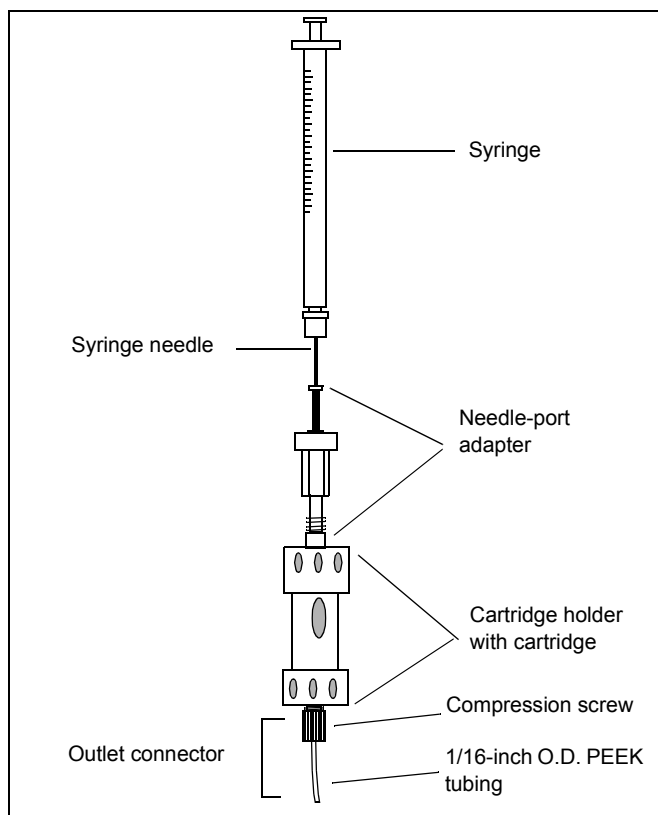

Figure 6 Cartridge Connection
2. Assemble the outlet connector: slide the PEEK tubing provided in the Methods Development Kit into a 10-32 compression screw, then finger-tighten the compression screw into the outlet end of the cartridge holder (Figure 6).
3. Connect the needle-port adapter to the inlet end of the cartridge holder (Figure 6).